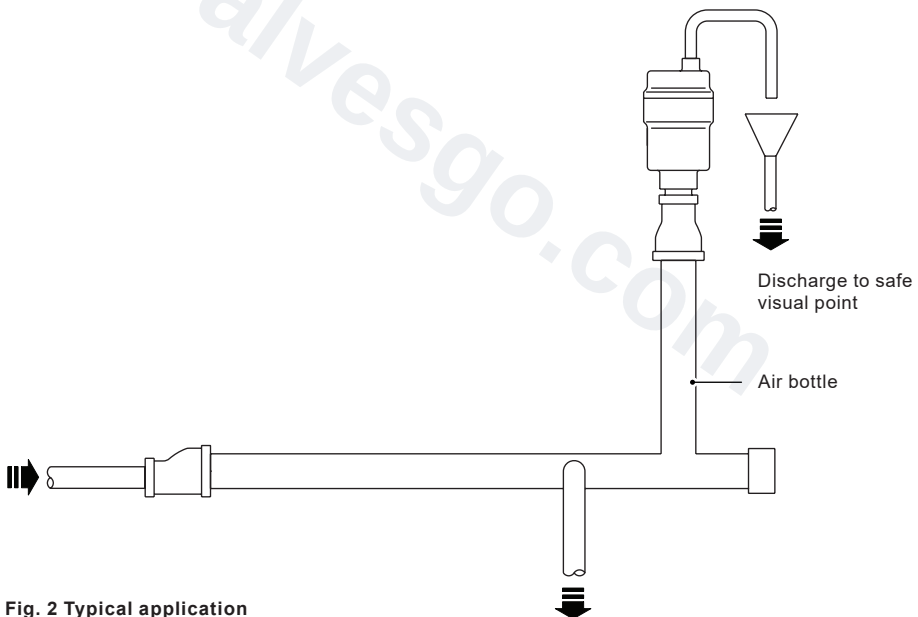

Fig. 2 Typical application
- 3.4** The automatic air eliminator/air vent should be installed vertically with the inlet at the bottom. We recommended that a drip pipe be fitted discharging to a safe place. To enable this to be done the outlet is provided with a $\frac{1}{4}$ " BSP or NPT male thread. See Fig. 2 for a typical application.